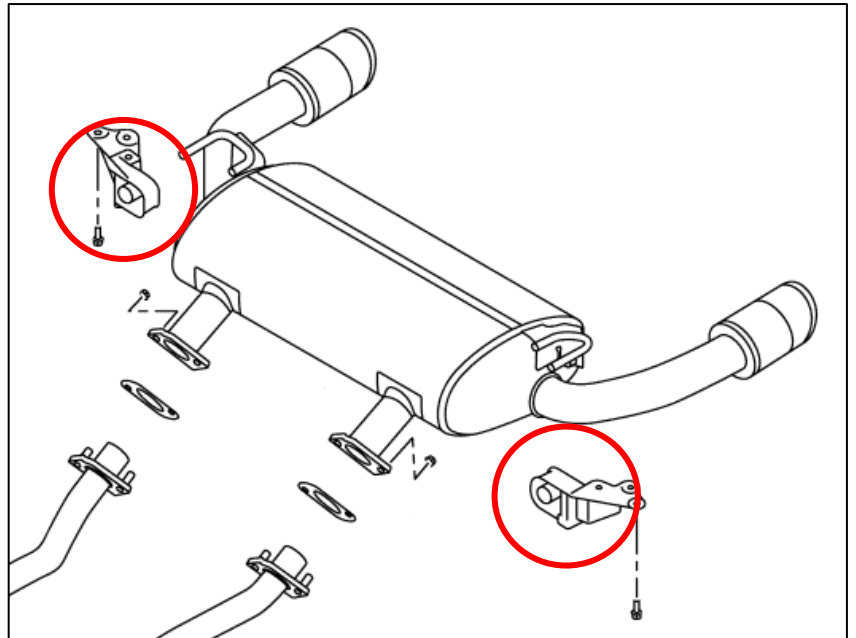

Figure 4
7. Locate the Axle-Back and position it into the new rear hangers of the vehicle. *Figure 4.*